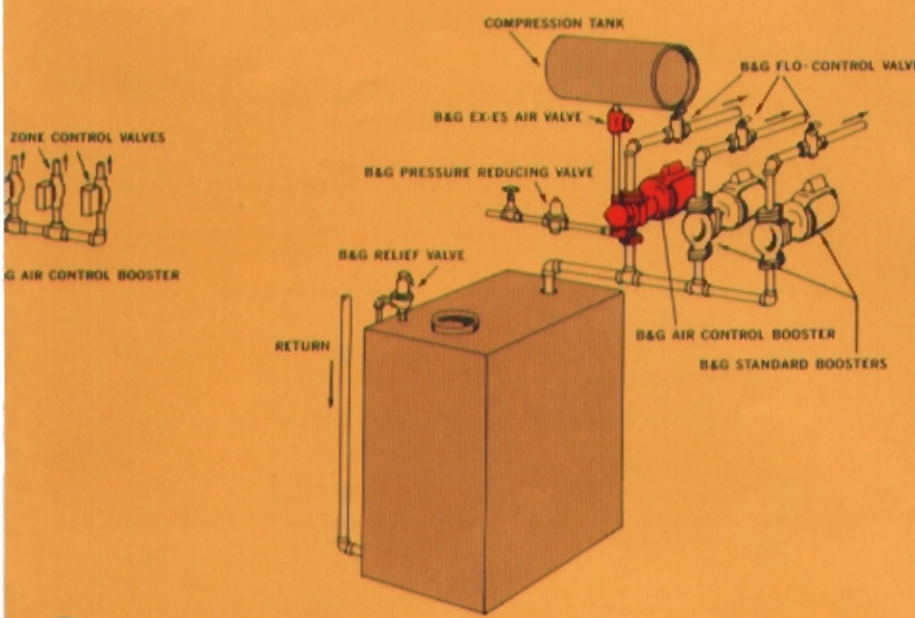

Figure 4
**USED ON ZONE CONTROL SYSTEMS**—The Air Control Booster Package can be utilized on zone control systems as illustrated in Figure 3, combined with B & G model TEV Zone Control Valves. It can also be used on one, two or three zone systems combined with standard B & G Boosters, see Figure 4. When used on multiple pump systems, pump must be located on the zone closest to the boiler outlet. Other considerations are: pump should be located on the zone most frequently used, pump should be located on the zone with the greatest flow, and pump should be located on the zone with the highest water temperature.